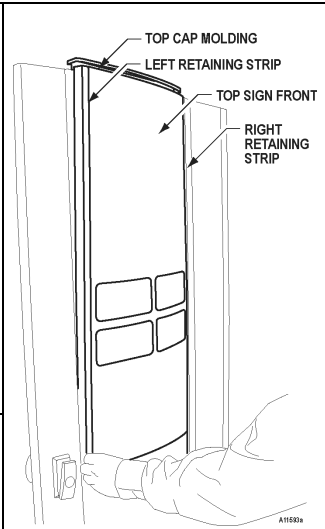

Figure 6c. Remove Top Sign Front
3. Go to the front of the cabinet door, lift Top Cap Molding and loosen the Retaining Strip located on the left side of the Top Sign Front. Remove and save the Retaining Strip and Top Sign Front. See **Figure 6c**.
7. Insert the right edge of the Top Sign Front through the slot of the right side Retaining Strip. See **Figure 6c**.
8. Slip the left side Retaining Strip over the left edge of the Top Sign Front. Push the Retaining Strip back into place. See **Figure 6c**.